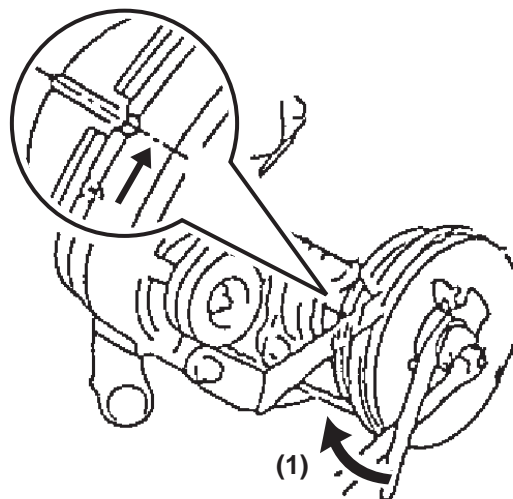

Figure 5-230
8. Slowly turn the crankshaft pulley clockwise (**Figure 5-230, (1)**) to align its groove to that of the timing gear cover.